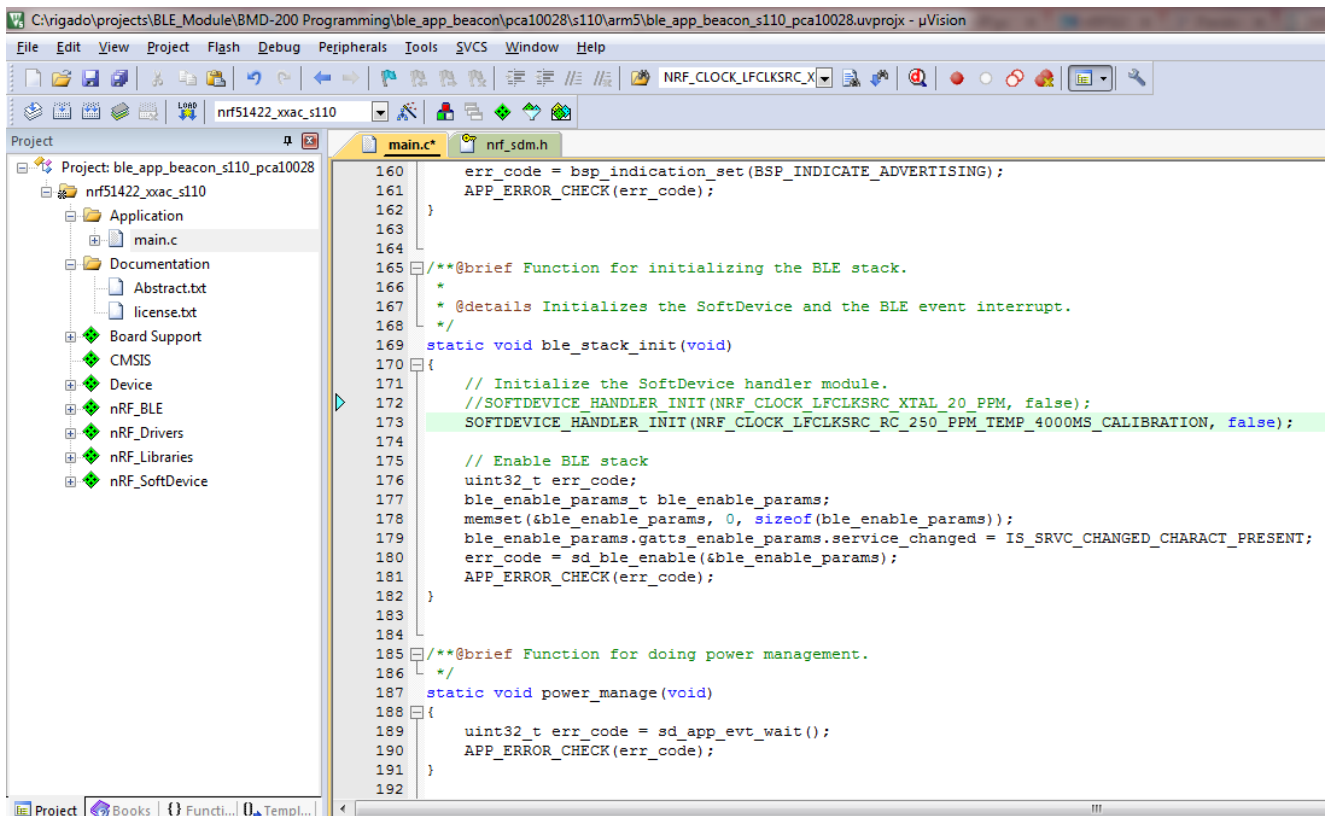

Figure 4- Edit for NO External 32KHz Clock
- The code should look like Figure 4.